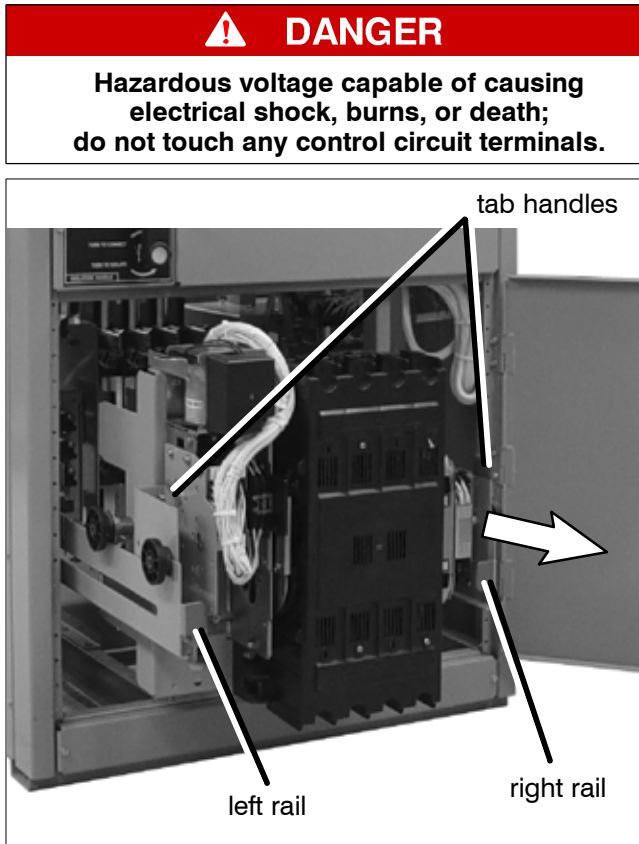

Figure 3-13. Transfer switch isolated and pulled out for inspection.
4. Open the lower enclosure door. Pull out both left and right side rails then use the two tab handles to roll out the transfer switch. It can be safely inspected in this position. The transfer switch can also be removed for easier maintenance operations. See Figure 3-13.